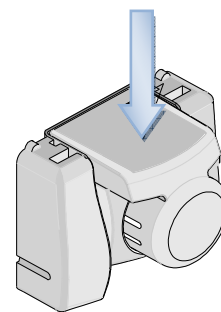

Figure 2
2. Press the red insert down as far as it will go. See Figure 2.
4. While holding onto the lower part of the locator with your thumb and index finger, insert the locator top hooks (2) into the Power Crimp Head top slots.